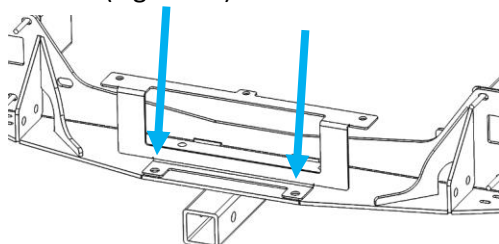

Figure 25: Winch Replacement Bracket
35. With the Front Receiver bolted to the frame, install the provided Winch Replacement Bracket with 3/8"-16 bolts and accompanying nuts and washers (Figure 25).